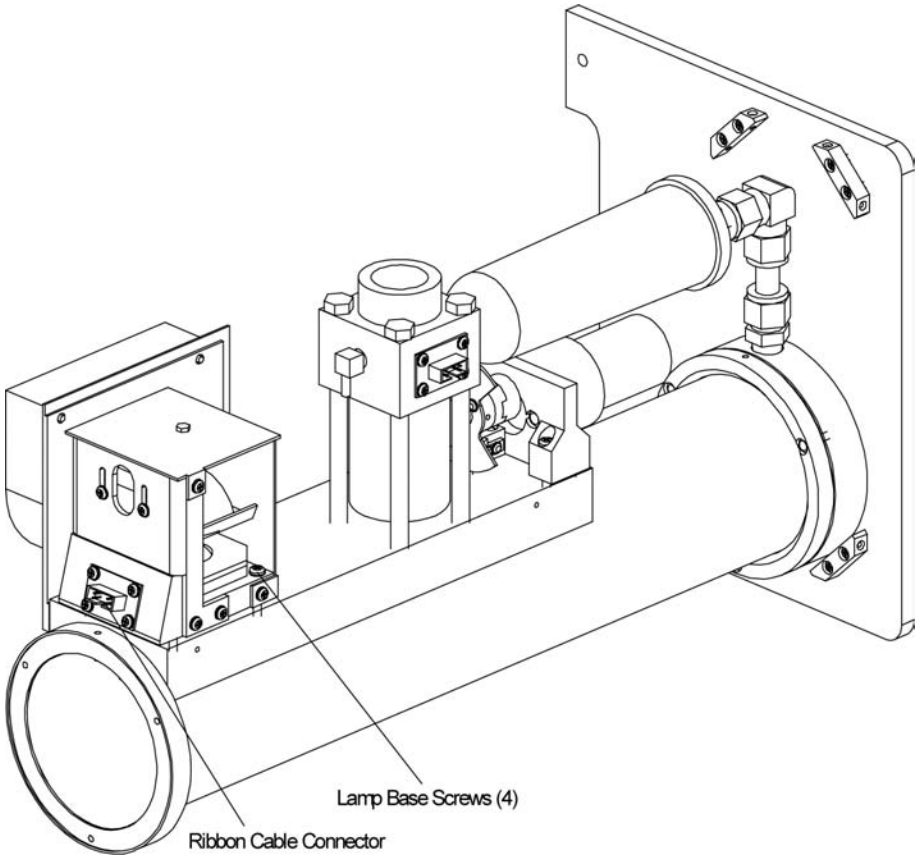

Figure 8-27
- a.** Unscrew the four screws, one on each corner, on the aluminum lamp base. Two of the screws are recessed (Figure 8-27).